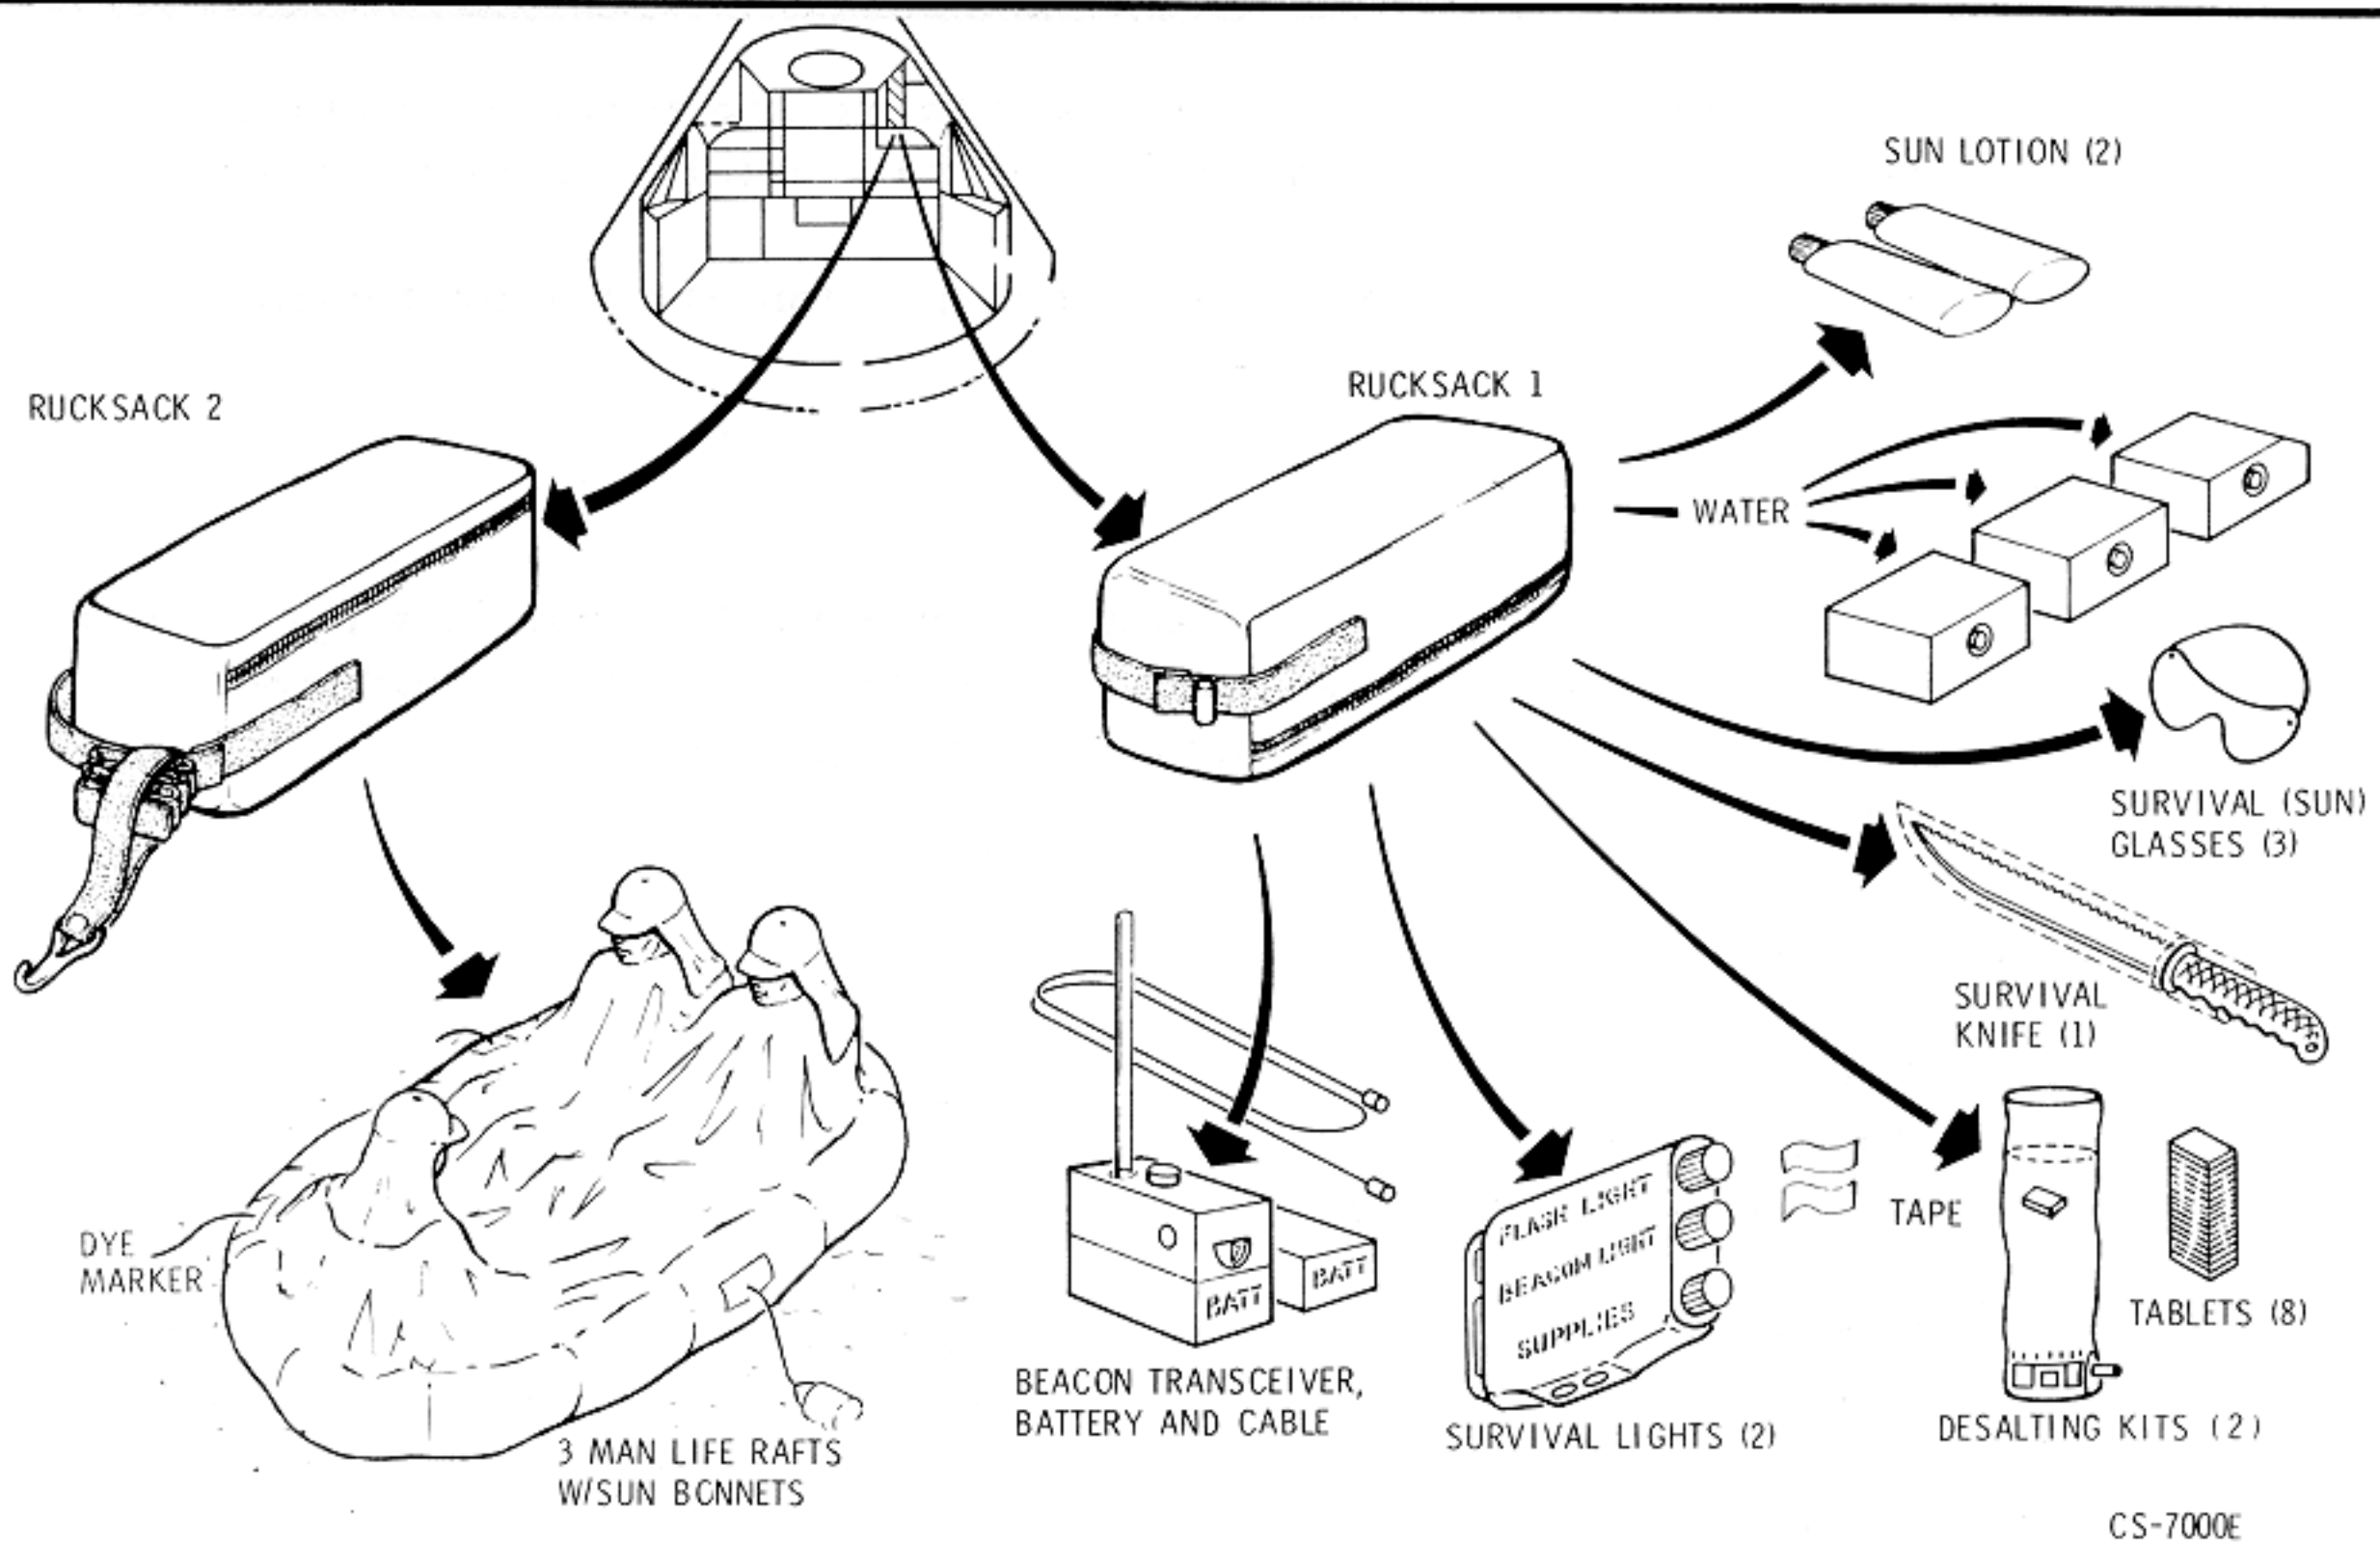

Figure 2.12-54. Survival Kit
2.12.9.6 Survival Kit (Figure 2.12-54).